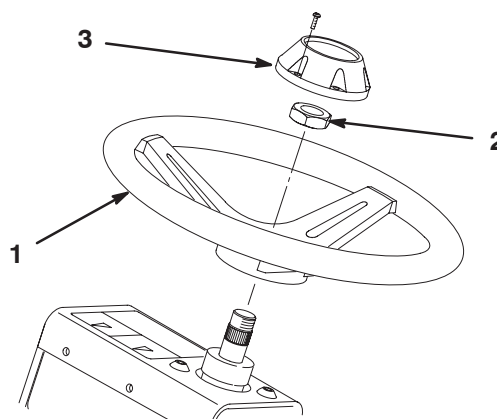

Figure 7
2. Secure the steering wheel to the shaft with the jam nut (Fig. 7) and tighten it to 20–26 ft.-lb.
3. Install the cap to the steering wheel with the screw (Fig. 7).